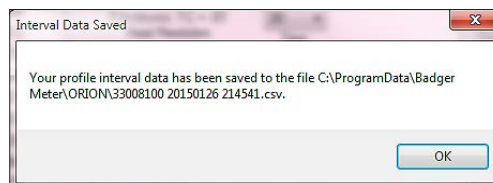

Figure 64: Save file confirmation
**Save Data** Tap to save the profile data. A window displays with a message that confirms the save and the location of the file (Figure 64). Tap **OK** to close the window.